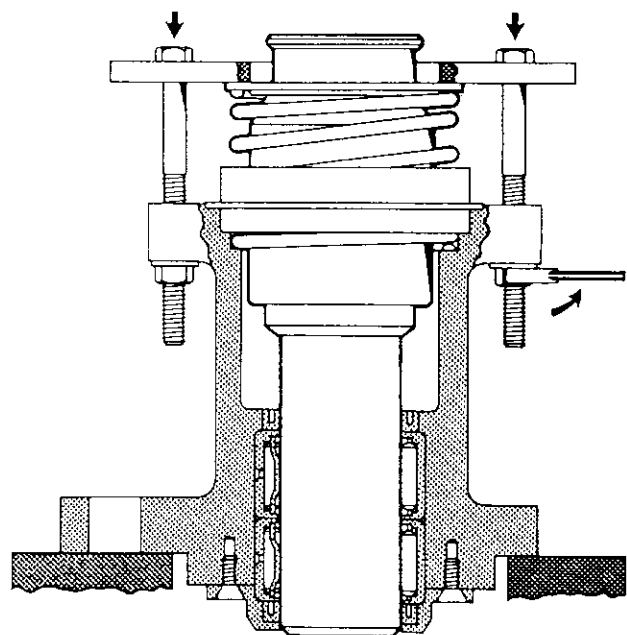

Figure 4.27
25. Insert the drive return spring (32) into the drive housing bushing (33).
26. Lubricate the splines and plain end of the facet drive assembly shaft (31) and insert plain end into the drive housing adapter (35).
27. Attach Tool No. 22776 to drive housing adapter by collapsing the drive return spring (32) with the facet drive unit (31) and securing with three nuts as shown in Figure 4.27.